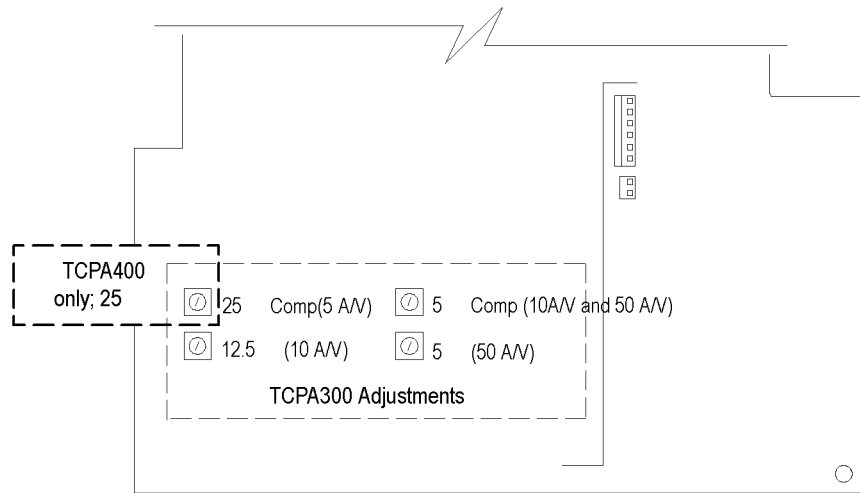

Figure 14: Gain adjustment locations
2. Set the current source to the values shown and adjust the corresponding adjustment pot to the target values shown. (See Table 25.) The adjustment locations on the amplifier board are shown. (See Figure 14 on page 48.)
3. Locate the adjustment on the amplifier board. (See Figure 14.)